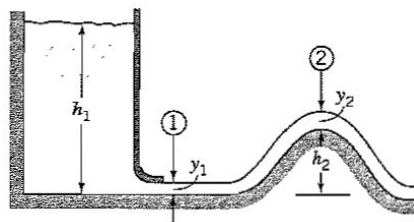

Figure P10.14
10.14 For the flow shown in Figure P10.14,